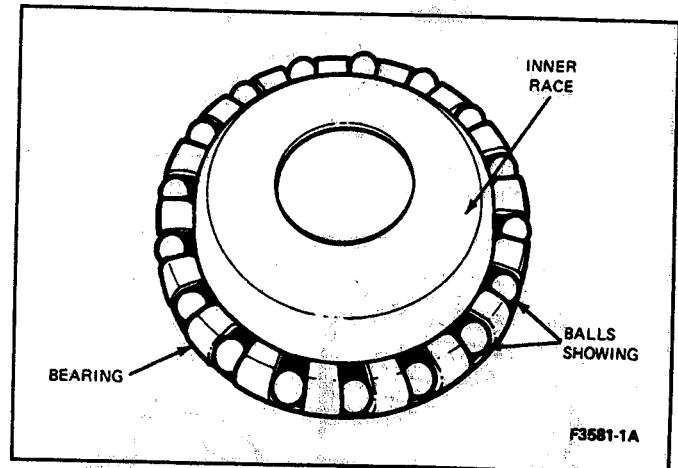

FIG. 4 Bearing Over Inner Race Installation
- Refer to Figs. 4 and 5 for proper positioning of the bearing on the race.